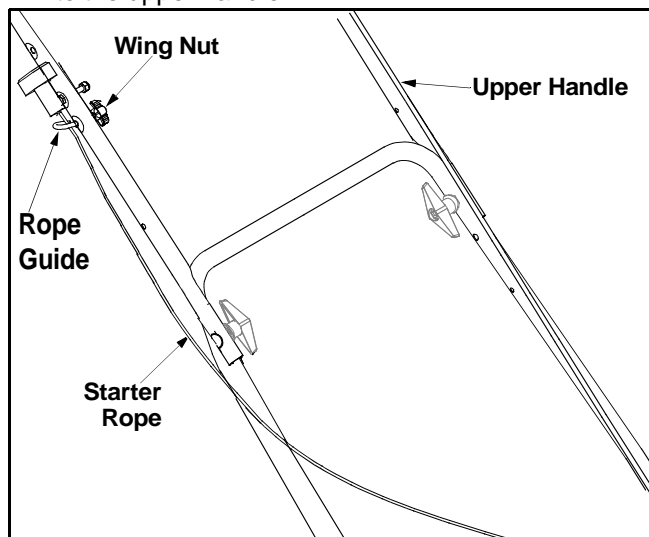

Figure 6
The rope guide is already attached to the right side of the upper handle of your mower. See Figure 6 .
- With the spark plug wire disconnected and grounded, hold the blade control handle against the upper handle, and pull the starter rope up to the rope guide. See Figure 6.